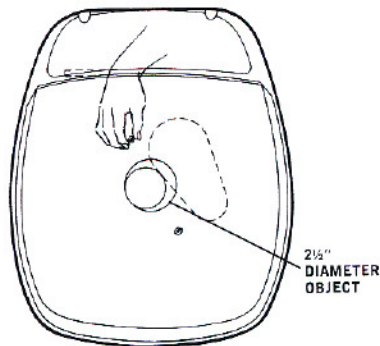

FIGURE 4
- a. You assemble the rear closet bolt flange nut by reaching with your right hand through the rear access hole (shown in Figure 4). The header points on the closet bolts will help start the nut. Tighten the nut until the base of the toilet contacts the floor.